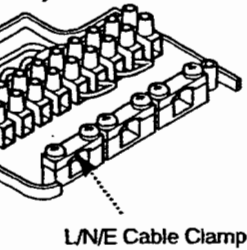

Fig. 30
3. Undo the two screws securing the L/N/E cable clamp and place to one side (Fig. 30).